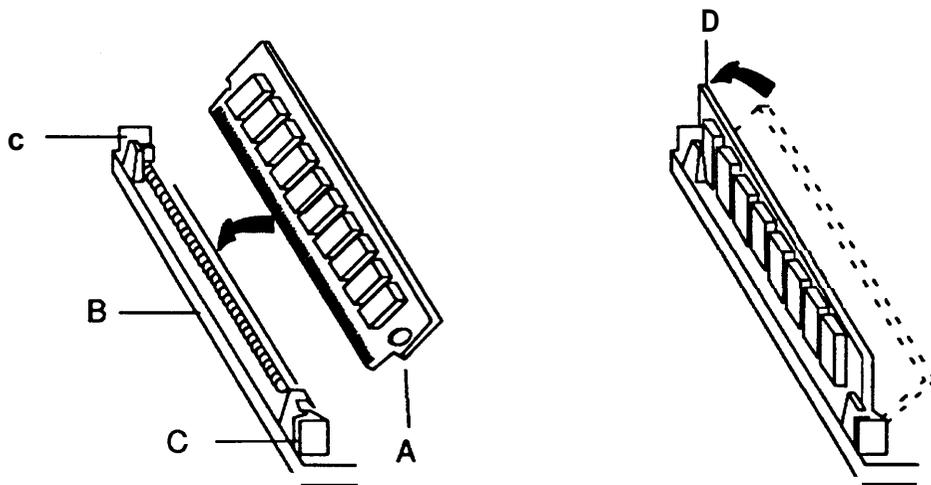

Figure 2-9. Inserting the SIMMs into Sockets
4. Refer to Figure 2-9. Holding the SIMM only by the edges (**A**), align the SIMM with its socket (**B**). The contact edge should be inserted into the socket first. The chips should be on the left side of the SIMM. Press down firmly while maintaining the angle of insertion.